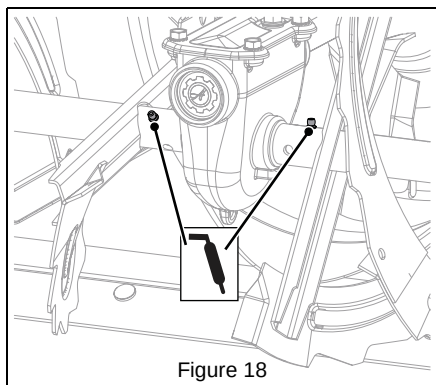

Figure 18
2. Apply grease at the grease zerks. See Figure 18.